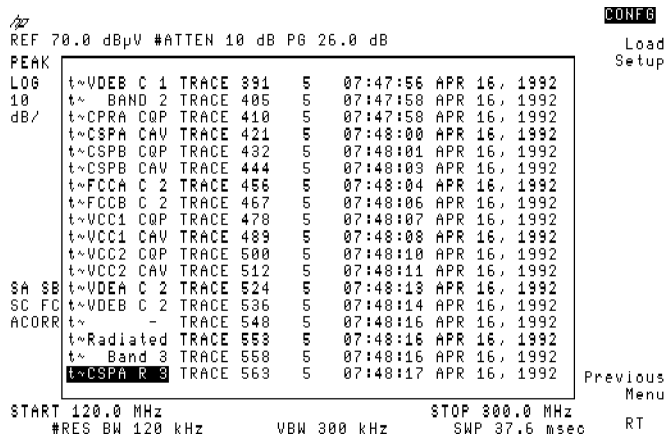

Figure 3-39. CSPA R 3 Selected
- 4. Scroll to **CSPA R 3** using either the front-panel knob or the step keys. See Figure 3-39.